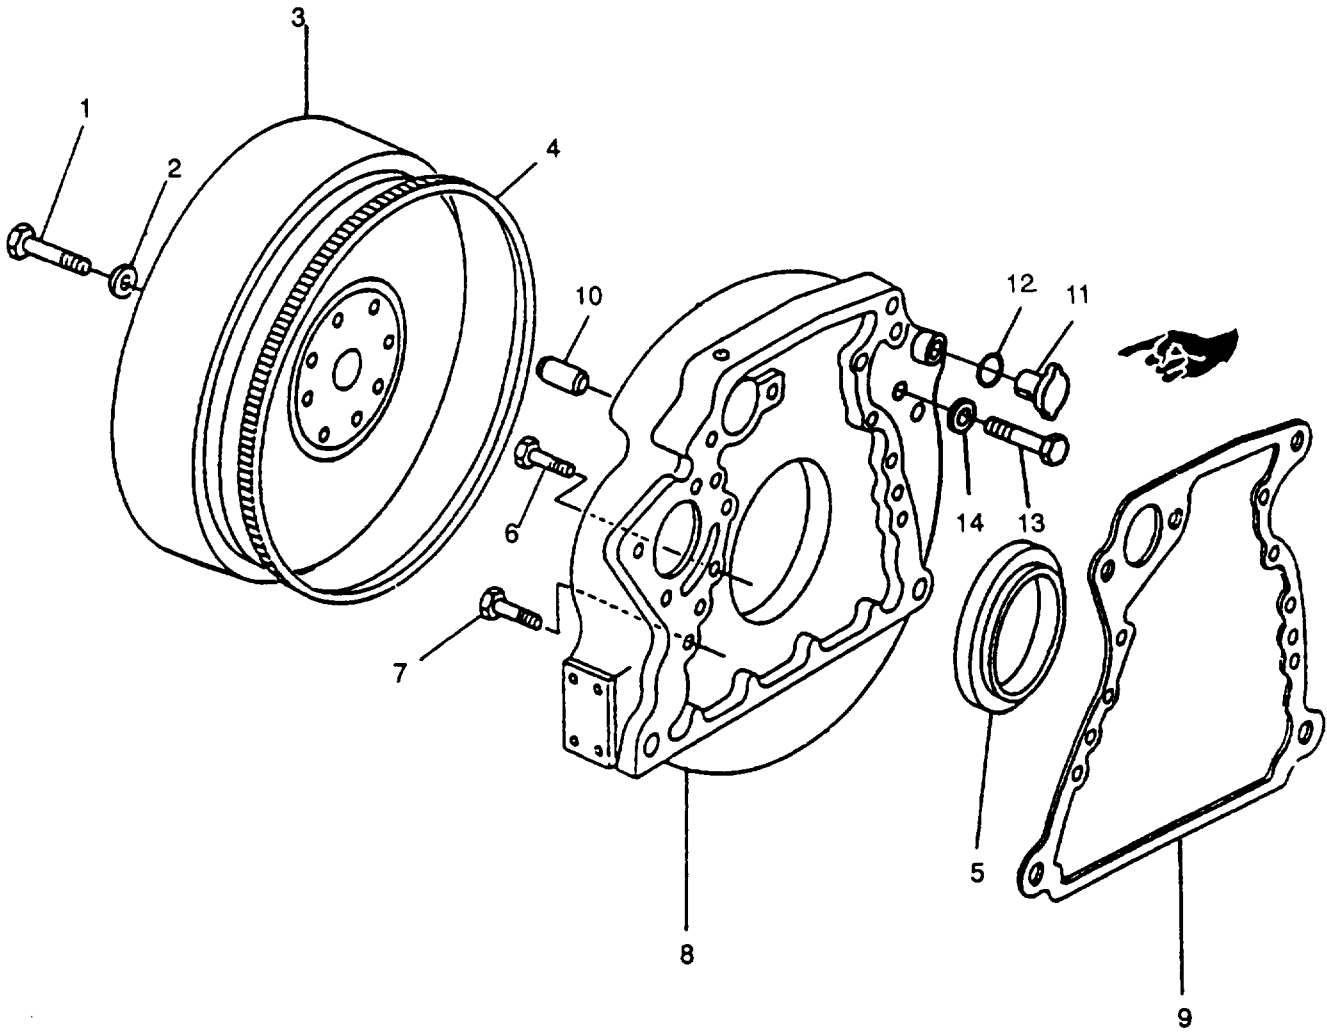

FIGURE 3-105. Flywheel and Housing Assembly
- b. Remove two capscrews (1, FIGURE 3-105) and washers (2). Replace these with two guide studs.
- c. Remove other two capscrews (1) and washers (2). Install these two capscrews in threaded holes of flywheel (3).
- d. Use two capscrews in step b to jack flywheel (3) off crankshaft.
- e. Remove flywheel (3) and two capscrews (1).
- a. If ring gear (4, FIGURE 3-105) is damaged, place the flywheel (3) on a solid flat surface.
- b. Drive ring gear (4) off with a brass drift and hammer.
- a. Apply adhesive (LOCTITE 242) to threads of four new capscrews (1, FIGURE 3-105).
- b. Install two guide studs in crankshaft capscrew threaded holes. Place flywheel (3) on studs and slide into position against crankshaft.
- c. Use a slide hammer/puller and a sheet metal screw to pull seal (5, FIGURE 3-105) from housing. Discard seal.
- b. Remove oil seal/wear sleeve (5, FIGURE 3-105), refer to paragraph 3-36.1.
- c. Support weight of flywheel housing (8) and remove eight 3/8-inch capscrews (6) and four 5/8-inch capscrews (7) securing housing to engine block; remove housing (8) and gasket (9). Discard gasket (9).
- c. Inspect dowel pins (10, FIGURE 3-105) for damage. Replace if damaged.
- d. Remove and inspect plug (11) and preformed packing (12) for damage. Replace if damaged. Otherwise, install preformed packing (12) and plug (11).
- e. Remove and inspect bolt (13) for damage. Replace if damaged. Otherwise, install bolt (13).
- (1) Attach magnetic base of dial indicator to flywheel end of crankshaft.
- (2) Position dial indicator against ID of seal bore in flywheel housing.
- (3) Turn crankshaft 360 degrees at front of engine, using center bolt on harmonic balancer. Maximum permissible TIR is 0.006 inch (0.152 mm). If run-out exceeds limit, replace flywheel housing.
- a. Install new silicone bead/gasket (9, FIGURE 3-105) on block. Gasket should be a silicone bead.
- b. Position flywheel housing (8) on engine block.
- c. Install eight 3/8-inch capscrews (6) and four 5/8-inch capscrews (7). Torque 3/8-inch capscrews (6) to 22 ft-lbs (30 Nm) initially and retorque to 35 ft-lbs (47 Nm). Torque 5/8-inch capscrews (7) to 170 ft-lbs (230 Nm).
- d. Install crankshaft rear oil seal/wear sleeve (5), refer to paragraph 3-36.2.